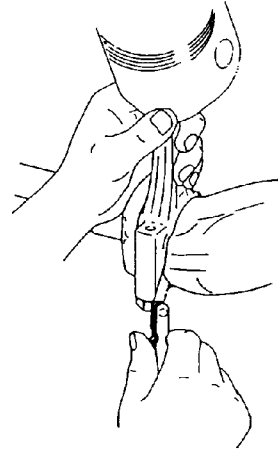

Figure 6-97
1. Using a feeler gauge, measure the connecting rod side clearance as shown (Figure 6-97). See *Connecting Rod* on page 6-22 for the standard limit. If the measurement is out of specification, replace the crankshaft, connecting rod, or both.